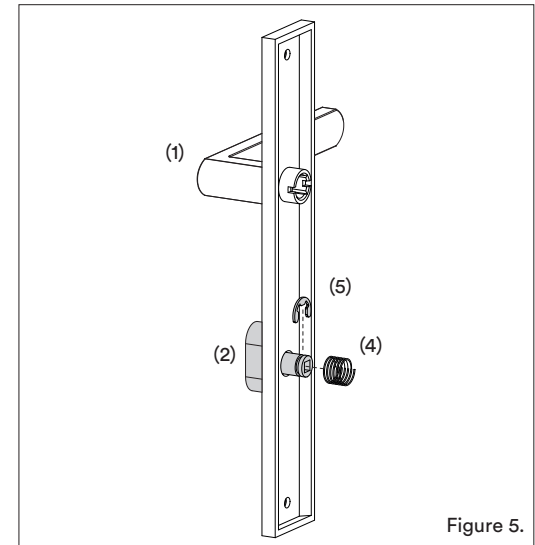

Figure 5.
- 4.1. Slide spring over snib neck and place neck through hole in internal backplate. (Figure 5)